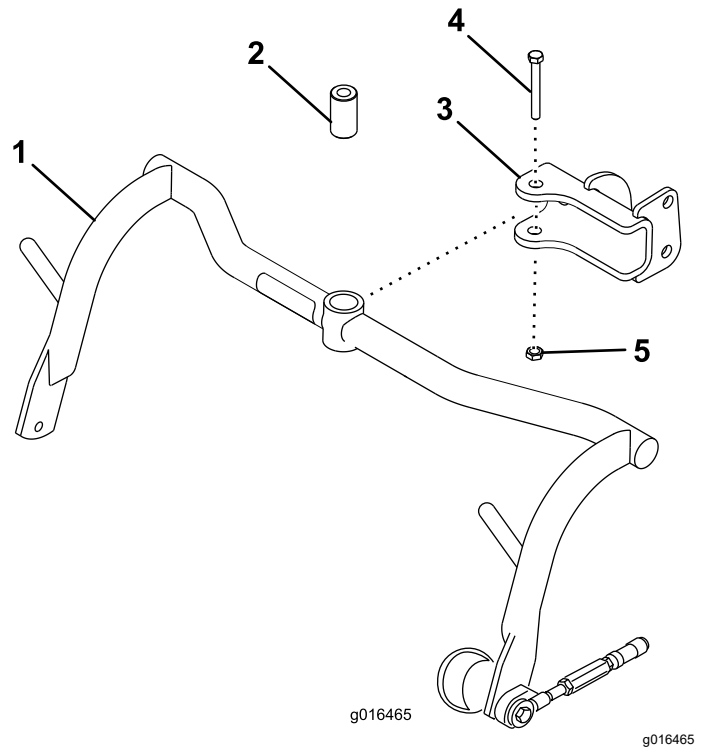

Figure 6
1. Mount a carrier frame assembly to each clevis with a spacer, bolt (1/2 x 3-1/4 inch), and locknut (1/2 inch); refer to Figure 6. Torque to 91 to 113 N·m (67 to 83 ft/lb).